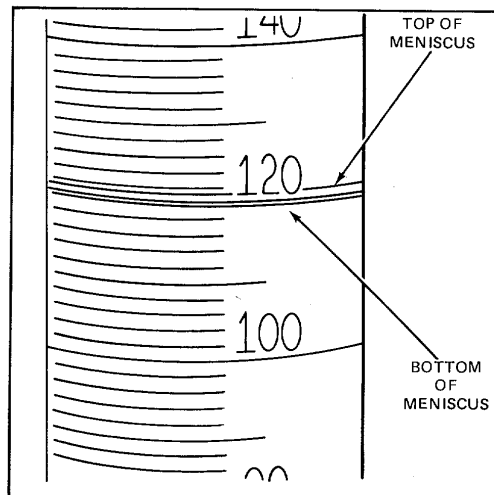

Figure 1. Checking Fuel Output
1. Operator Errors: If the column of liquid in the vial is read at the top of the meniscus instead of at the bottom, a variation of 1 or 2 points will result. Refer to Fig. 1.